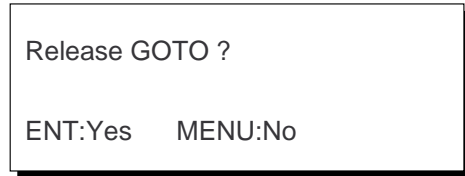

Figure 5-16
- 2) Press [5] to select Cancel. The message shown in Figure 5-16 appears.